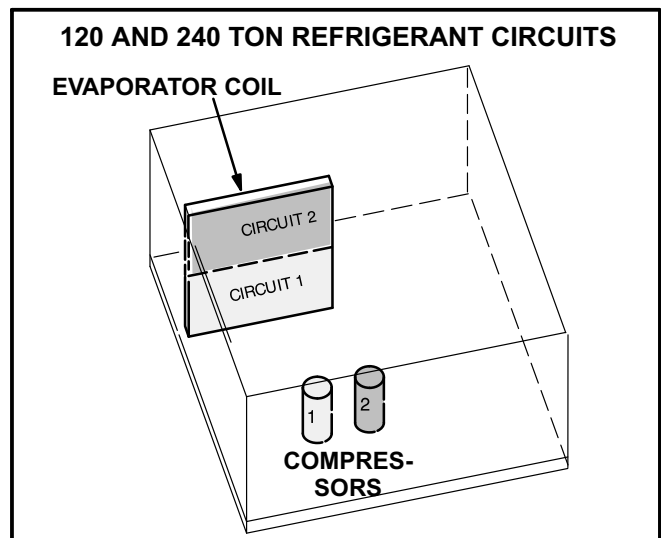

FIGURE 25
- 3- 120 and 240 units contain two refrigerant circuits and two stages of cooling. See figure 25.